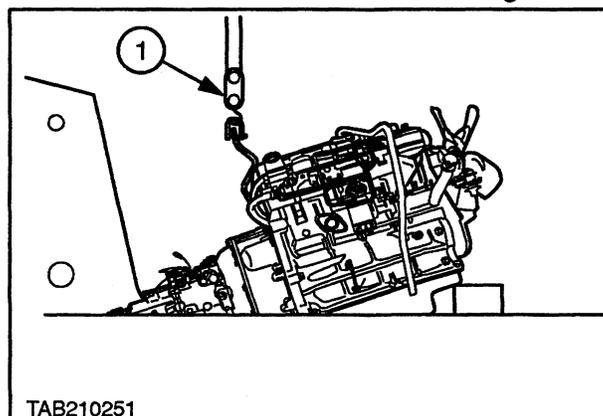

Figure 1-10
28. Using lifting tool NH01250, 1, Figure 1-10 very carefully raise the hoist and guide the engine/transmission assembly from the vehicle.